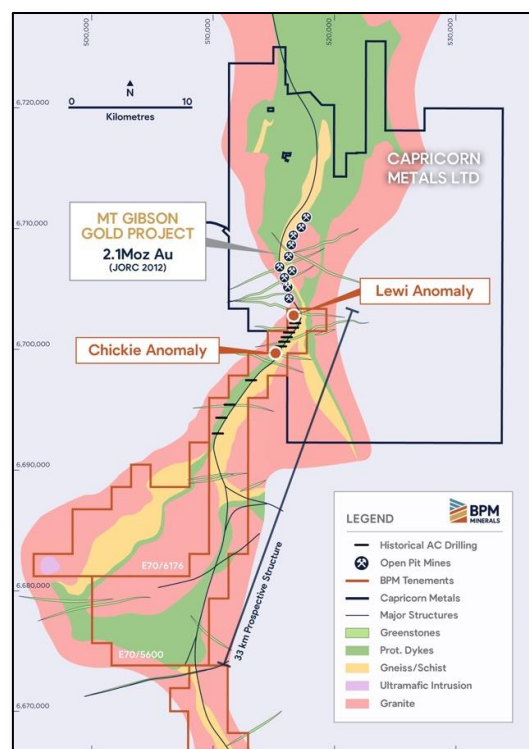

Figure 1 - BPM's Claw Gold Project, located in Western Australia's gold frontier country.
**BPM Minerals Ltd** (ASX: BPM) ('BPM' or 'the Company') is pleased to announce that its Claw Gold Project (Claw or the Project), located 290km's northeast of Perth in the Murchison Region of Western Australia, has formally been granted (Fig. 1).